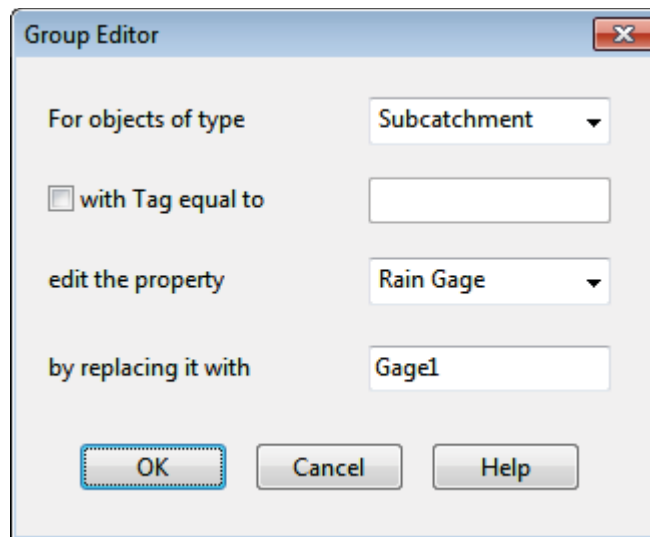

Figure 2-6 Group editor dialog
2. Then select **Edit >> Group Edit** to make a Group Editor dialog appear (see Figure 2-6).